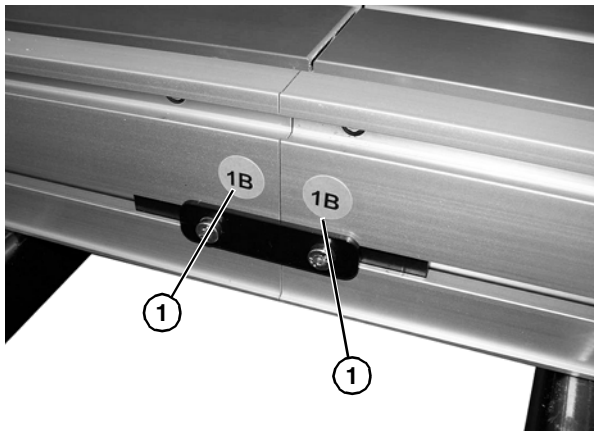

Figure 11
1. Locate and arrange conveyor sections by section labels (Figure 11, item 1).